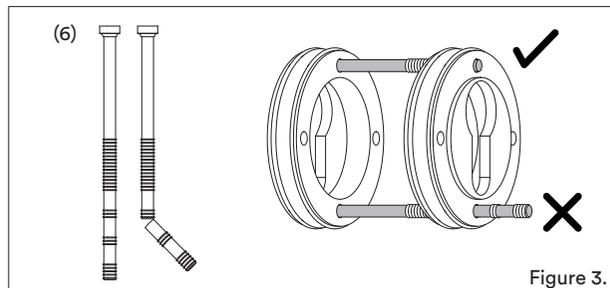

Figure 3.
- 5.2. Ensure to cut so that the screw does not protrude from the opposite rose once installed. (Figure 3)